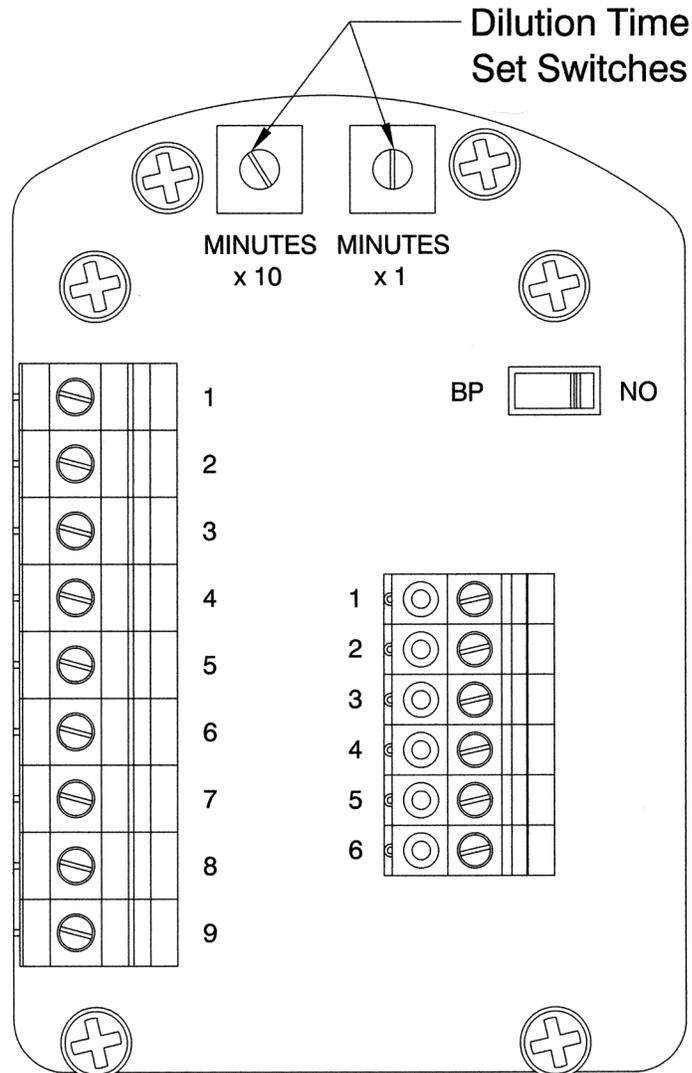

Figure 2
With CYCLOPS X – Purge Controller, XP Version cover removed, set automatic dilution time cycle in the CYCLOPS X – Purge Controller, XP Version to ensure that at least five (5) times the volume of free space in the electronics enclosure is exchanged before power is automatically applied to the electrical equipment from the CYCLOPS X – Purge Controller, XP Version. Refer to Figure 2 for location and details of dilution time switches in CYCLOPS X – Purge Controller, XP Version.